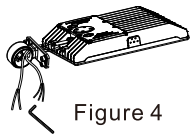

Figure 4
Step 1: Separate the bracket with tool. (Figure 4)